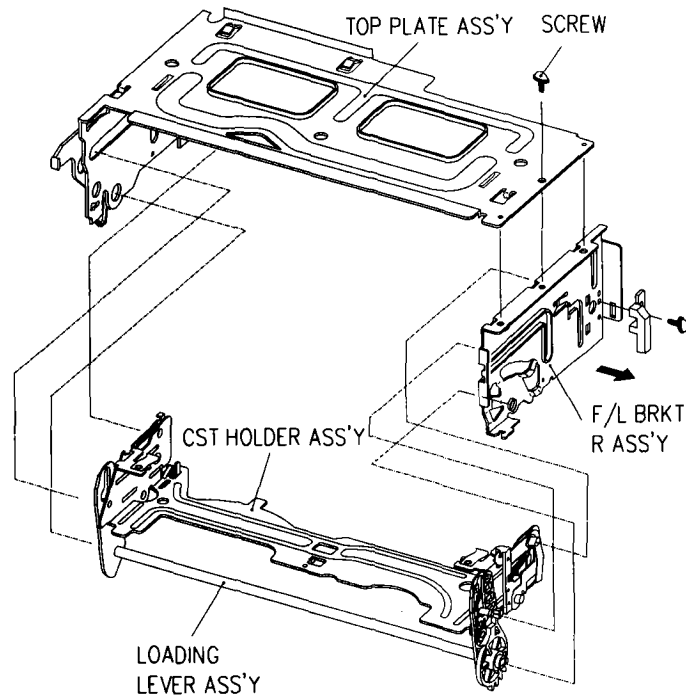

Fig.3-2 DISASSEMBLY OF THE FRONT LOADING ASS'Y
- b. Remove the cassette holder assembly. (Fig. 3-2)